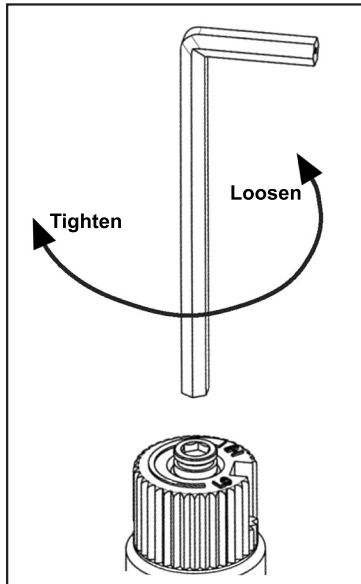

**Figure 9: Removing valve cap.**
a) Remove the black protection cap from the HI/LO knob by hand shown in Figure 9.
g) Re-attach the black protection cap that was removed in step a (Figure 9).